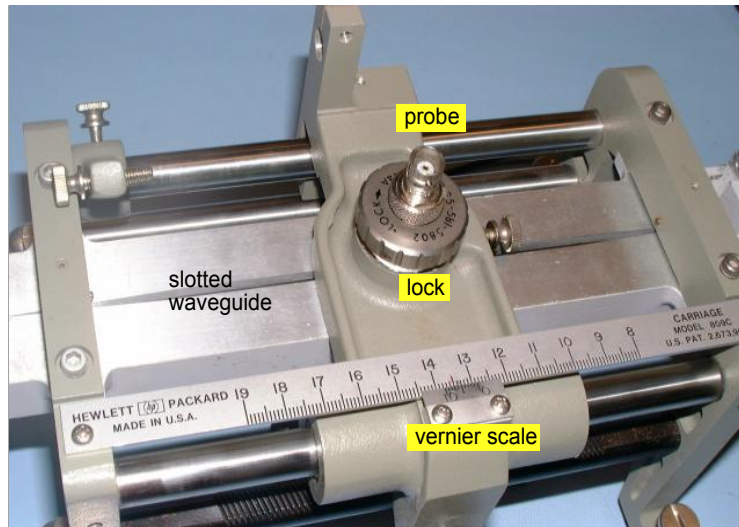

Figure 6: Details of slotted waveguide, moving probe, lock and vernier scale.
- “Tune” the penetration of the probe into the waveguide. This step is necessary because a probe that is protruding too far into the waveguide will change the field profile inside the waveguide and affect the measured values. See Figure 6 for details of the carriage and probe/detector.
1. Measure the wavelength of the standing wave by adjusting the carriage to find minimum and maximum points (see Figure 6). Note the SWR measurements for the minimums are sharper than the maximums. Record three wavelength measurements, i.e. find three minima and maxima on the waveguide.